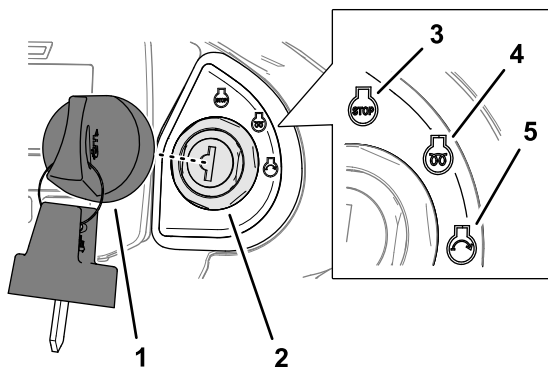

Figure 25
4. Turn the key to shutoff (stop) position (Figure 25).